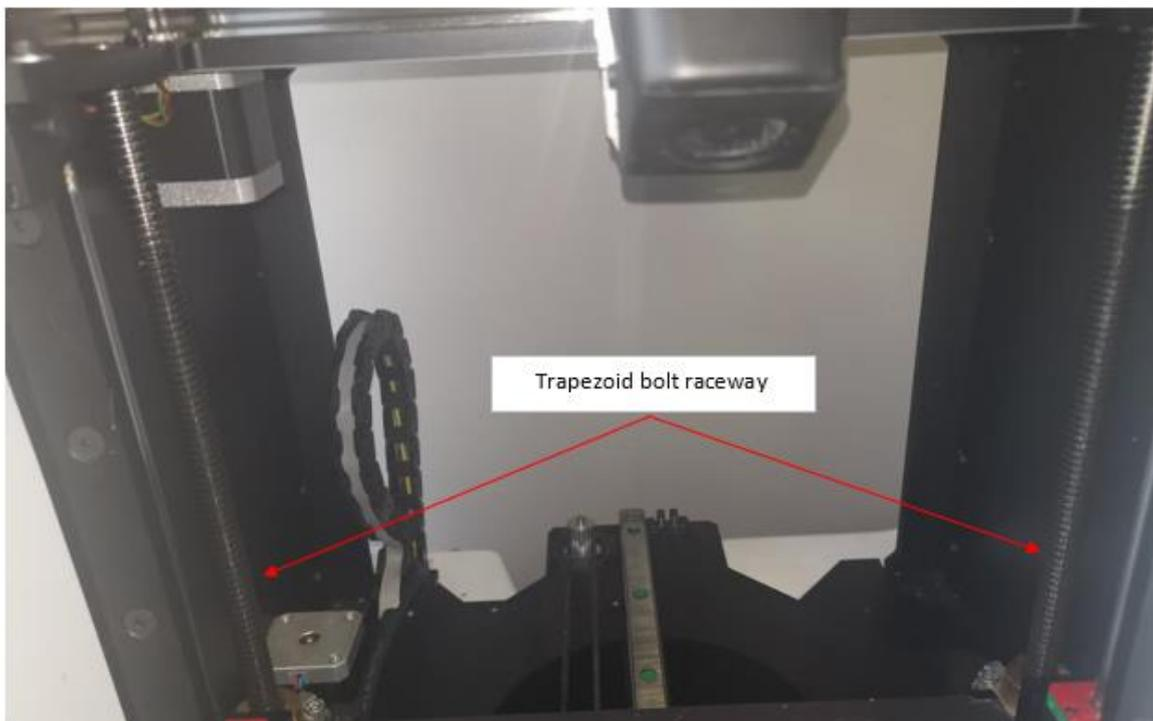

Fig.74 Trapezoid bolt raceway
4. Apply grease to the raceway of the trapezoid bolts (left and right) Fig.74